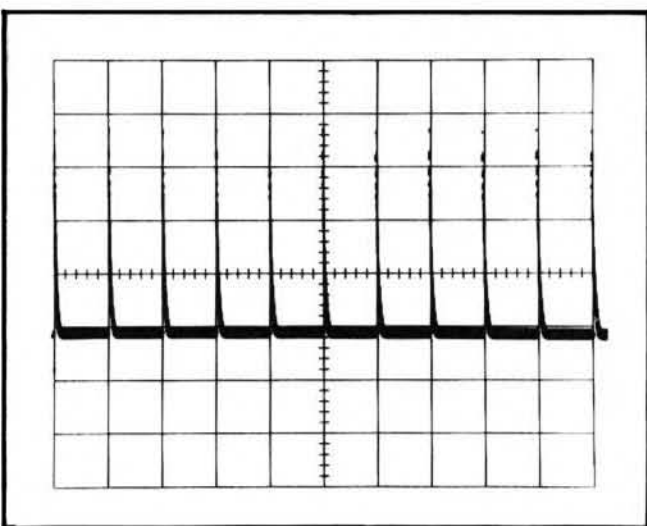

Fig. 5-6. CRT display showing correct 5 μ s timing.
- CHECK—CRT display for one marker each division between the second and tenth vertical lines. Check that sweep timing is within 0.16 division (2%) over the center eight divisions. See Fig. 5-6.